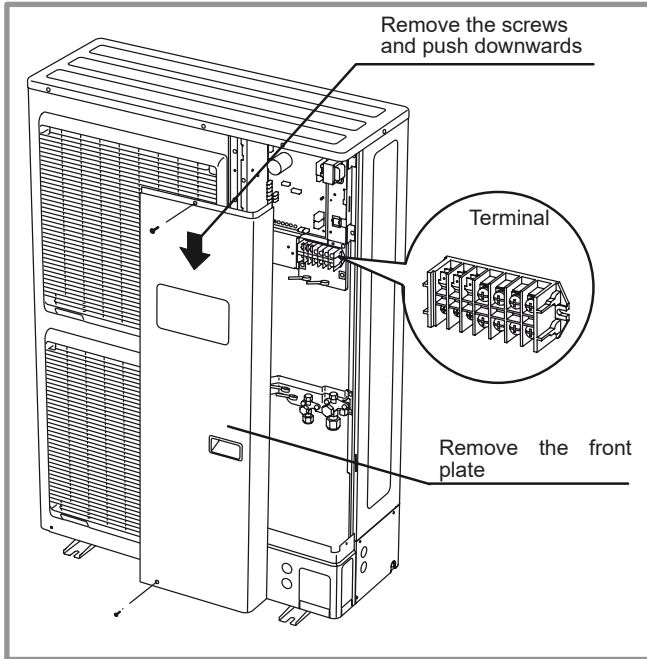

**figure 36 - Finalising connection of single phase outdoor unit**
- Use the fixing plate to keep the cables tight against the insulating plate (figure 36).